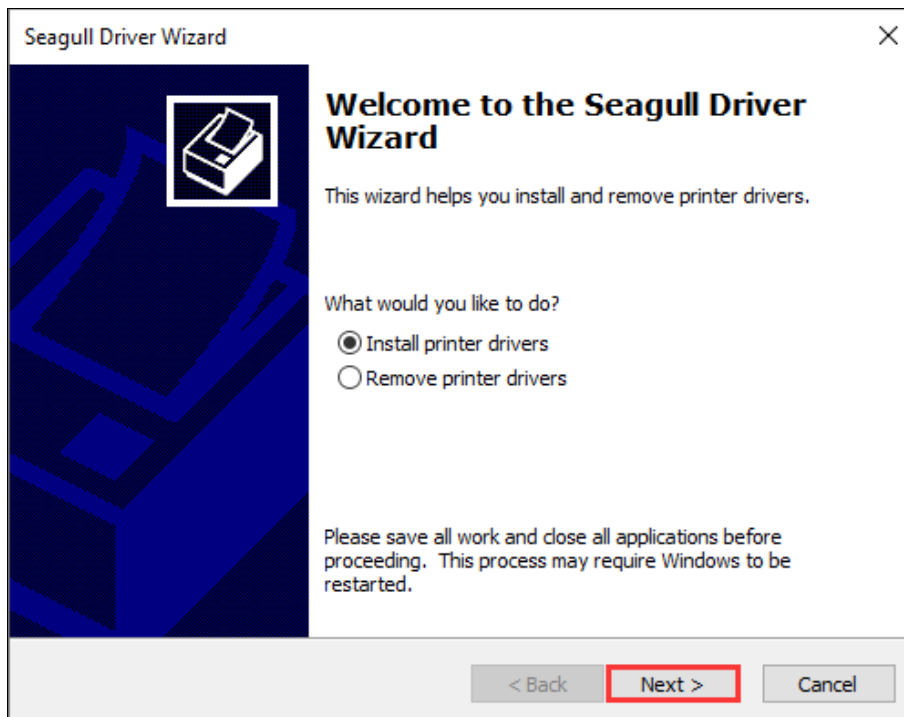

Figure 2-30 Seagull Driver Wizard Screen
6. On the “Seagull Driver Wizard” screen, select “Install printer drivers”, and then click “Next”, as shown in Figure 2-30.